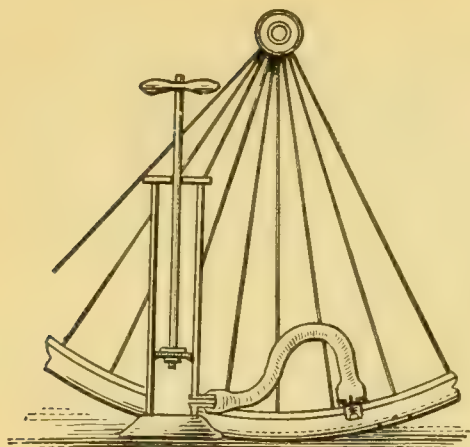

FIGURE 121.
79. Air Compressors. — The *bicycle pump* (Figure 121) is the simplest type of air compressor. It consists of a cylinder and piston with a concave leather disk on its under side. On